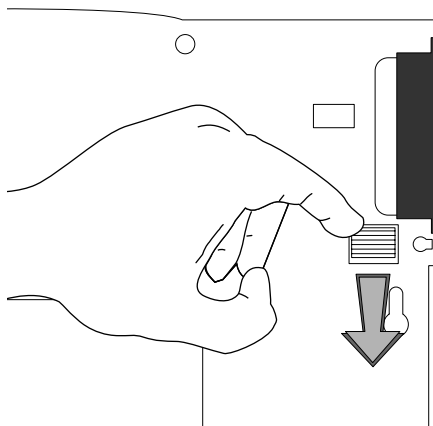

Figure 3-6 Removing the Hard Disk Drive
3. Press the hard disk drive latch (see Figure 3-6) away from the drive.